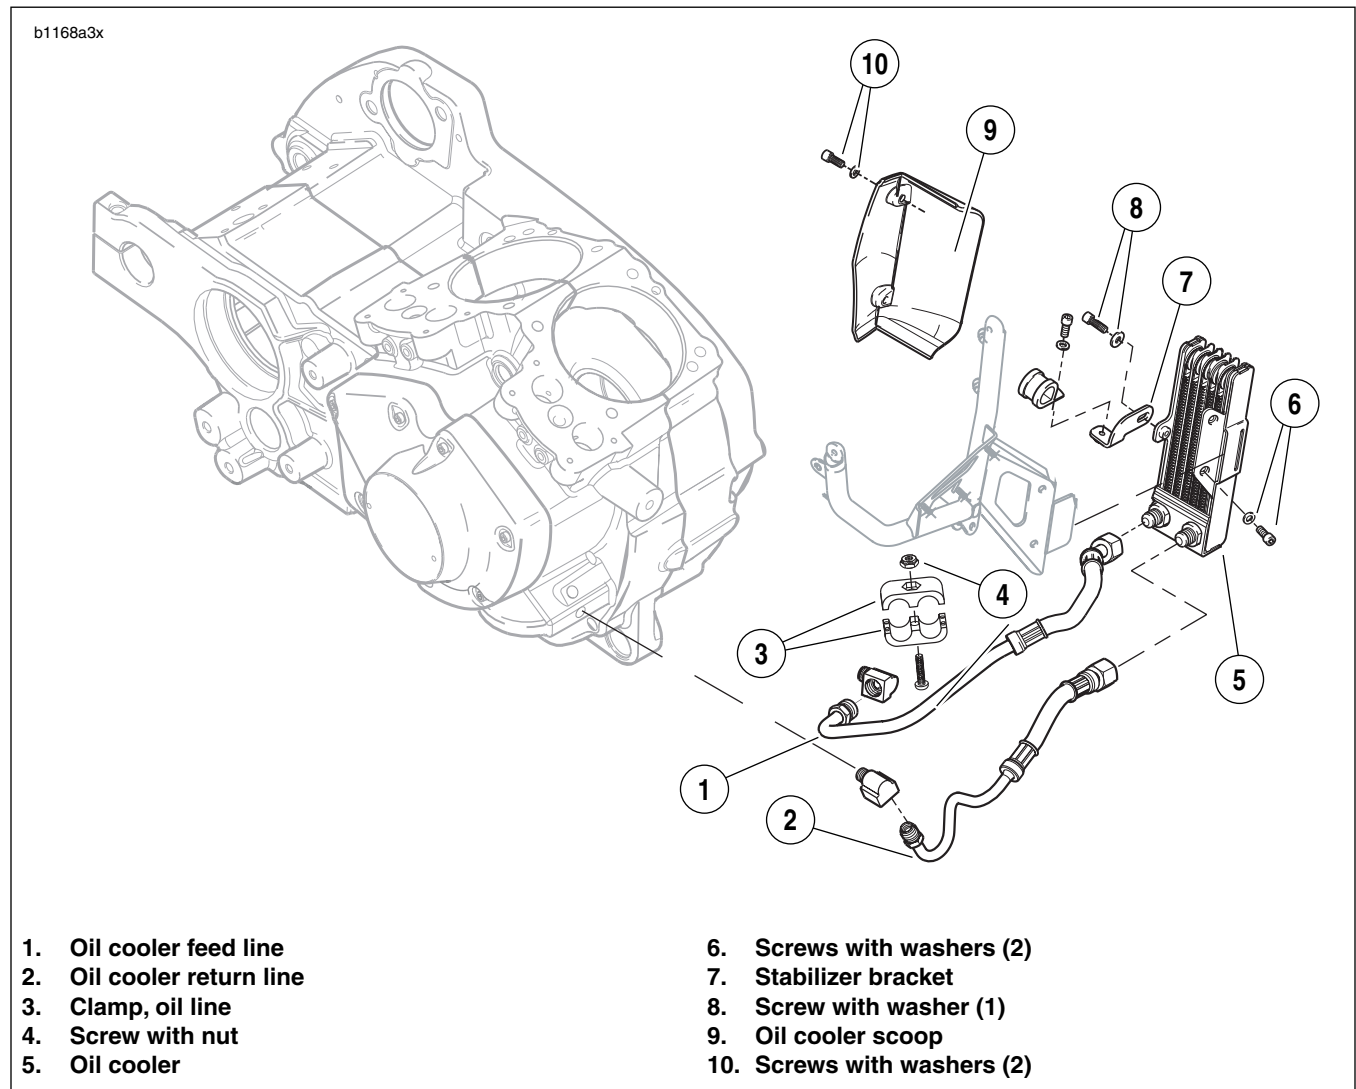

Figure 3-113. Oil Cooler
1. See Figure 3-113. Lightly coat the threads of the oil cooler fittings with clean H-D 20W50 engine oil. Wipe off any excess oil.
3. After the oil cooler is in place, apply Loctite 272 to the two fasteners (6) and tighten to 96-108 **in-lbs** (10.8-12.2 Nm).
4. Install the stabilizer bracket fastener (8) and tighten to 66-78 **in-lbs** (7.5-8.8 Nm).
5. Install oil cooler scoop and apply Loctite 272 to the two fasteners (10) and tighten to 48-72 **in-lbs** (5.4-8 Nm).